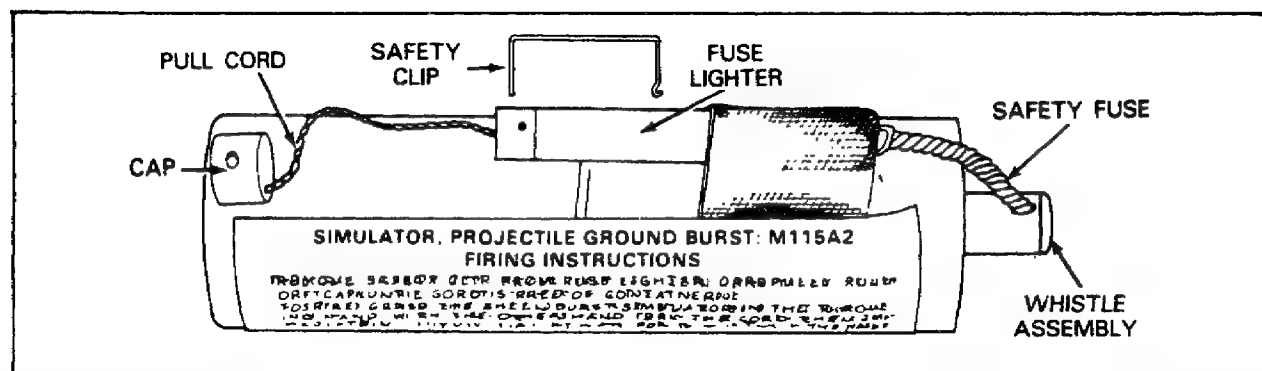

Figure 110. Simulator, Projectile, Groundburst, M115.
*Simulator, Projectile, Groundburst, M115.* The simulator, projectile, groundburst, M115 (Figure 110) is a paper cylinder approximately 7 inches long and 2 inches in diameter, filled with a photoflash charge. The simulator has a whistle assembly, a time delay (safety) fuse, and a fuse lighter assembly. It simulates the whistle, flash, and noise of explosion of incoming artillery. It functions in the same way as the hand grenade simulator. When the cap is removed from the fuse lighter and the cord is pulled, the fuse lighter ignites the fuse, allowing a 6-to 10-second delay before the fuse ignites the whistle assembly. The simulator makes a loud, shrill whistle for 2 to 4 seconds until the photoflash charge is ignited. When ignited, the photoflash charge explodes, producing a flash and a loud noise. This simulator is white, with a white label and black markings.